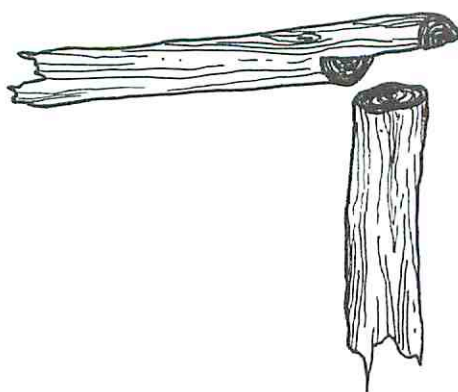

Figure 1
To start assembling the basic frame you'll need your base supports (A) and cross joiners (B). A half-lap joint will give you the strongest connection. See Fig. 1.